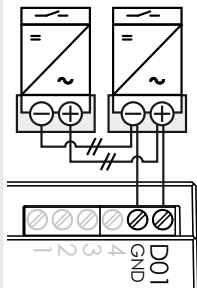

Figure 12: Digital output
1. Connect wire A (+) to the terminal marked "EVU+" on the first inverter via the "DO1" terminal on the first inverter (see Figure 12).
2. Connect wire B (-) to the terminal marked "EVU-" on the first inverter via the "GND" terminal of the first inverter (see Figure 12).